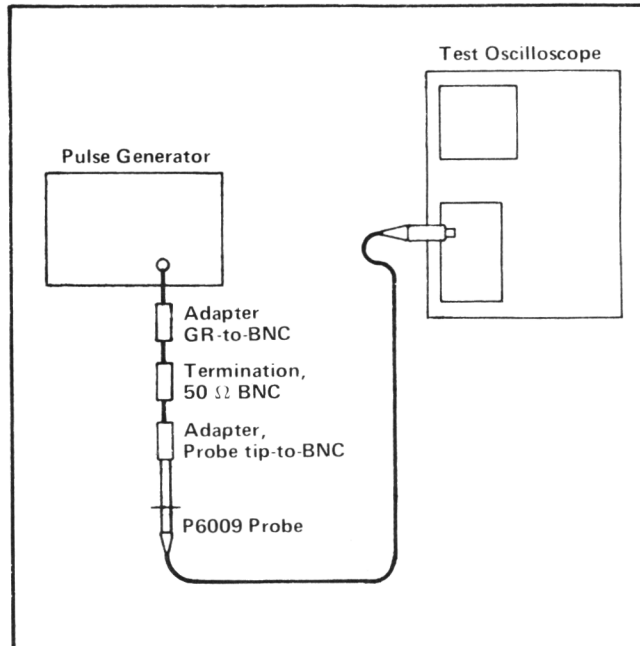

Fig. 6. Equipment connections for checking pulse response of the P6009 Probe.
c. Connect the probe tip to the pulse generator output, using Fig. 6 as a guide.
i. Disconnect the probe from the calibrator output and connect as shown in Fig. 6. Set the oscilloscope Time/Div to 50 ns.